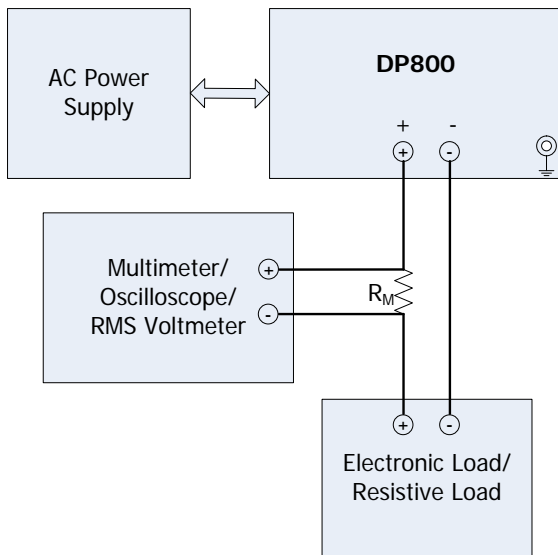
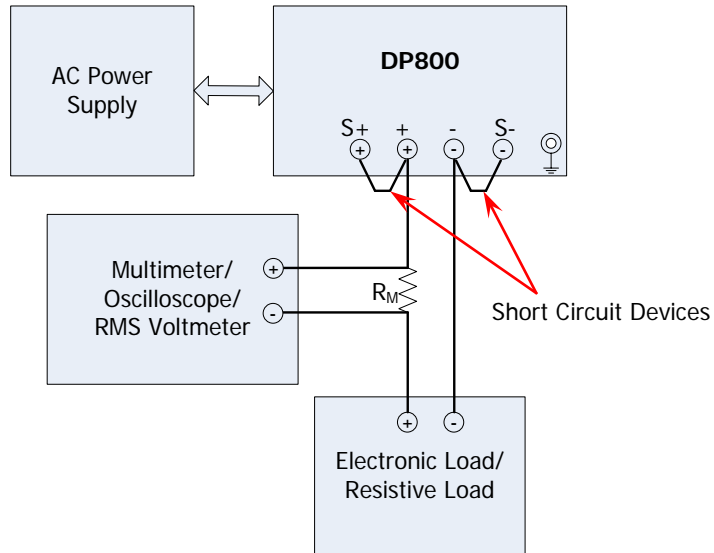

Figure 3-1 CC Test Connections
Figure 3-2 CC Test Connections (Sense)
Before performing the tests, select the appropriate voltage via the “voltage selector” at the rear panel of the power supply according to the AC line voltage of the country (230V is taken as an example in all the tests in this manual). Under normal temperature (about 25°C), make connections according to Figure 3-1 or Figure 3-2 using the devices recommended in “**Recommended Test Devices**” (for CC ripple and noise test, please connect the desired devices according to Figure 2-1 or Figure 2-2). During the test process, please set the voltage of the AC power supply according to the voltage selected of the “voltage selector” at the rear panel of the power supply.
- During the CC tests, make connections according to Figure 3-1 for the normal channels (namely the channels that do not support the Sense function) of the DP800 series power supply. For the channels that support the Sense function (CH2 of DP821A and DP811A), make connections according to Figure 3-2 (note to short-circuit the (S+) and (+) terminals, (S-) and (-) terminals of the channel respectively) and turn on the Sense function of the channel during the test process to measure the specifications under Sense mode.
1. Turn off DP800. Connect DP800, AC power supply, current sampling resistor (the resistance  $R_M$  is 0.022 $\Omega$ ), electronic load and multimeter according to Figure 3-1. Please pay attention to the connection method of the current sampling resistor, electronic load and the channel output terminals of DP800 as well as the connection method of the current sampling resistor and multimeter. Here, CH1 is taken as an example and the connection method is also applicable to CH2 and CH3.
- For the channels that support the Sense function of DP800 series, please connect DP800, AC power supply, current sampling resistor, electronic load and multimeter according to Figure 3-2 and turn on the Sense function of the channel after selecting the current channel in step 3.
1. Turn off DP800. Connect DP800, AC power supply, current sampling resistor (the resistance  $R_M$  is  $0.022\Omega$ ), electronic load and multimeter according to Figure 3-1. Please pay attention to the connection method of the current sampling resistor, electronic load and the channel output terminals of DP800 as well as the connection method of the current sampling resistor and multimeter. Here, CH1 is taken as an example and the connection method is also applicable to CH2 and CH3.